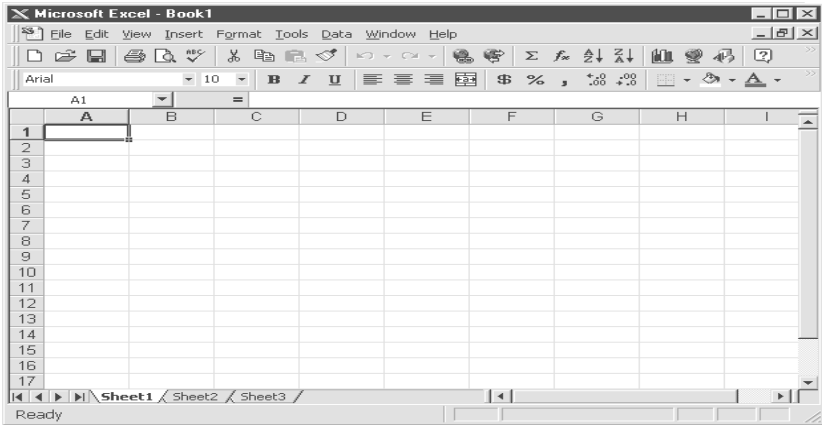

Figure 30. Excel Window
1. Export the event data to a tab delimited text file, as described in Section **5.6.6 Exporting Displayed Data to a Text File**. Assume we have just exported the event data to a file called TextEvent.txt. To convert that file to a MS-Excel file, open your MS-Excel software, as shown in Figure 30.